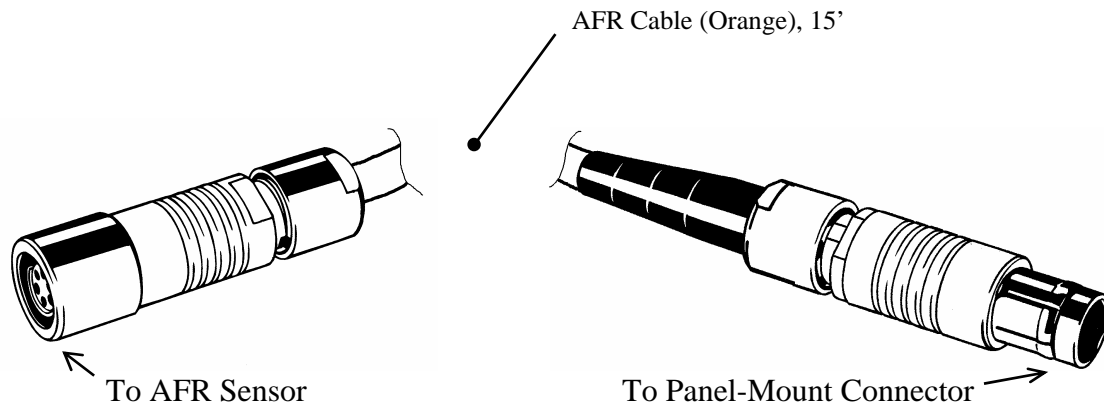

Figure 4: Severe Duty AFR Cable Extension
6. The shields of the severe duty AFR Cable Extensions (see Figure 4) that plug into the Fischer panel-mount connectors connect to the shields of the signal cable via terminal 4 (of the Fischer connector). However, the shields are not connected to terminal 4 at the AFR sensor end of the severe duty AFR cable extensions. Keep this in mind when checking for continuity on terminal 4.
10. Plug the severe duty AFR Cable Extensions (see Figure 4) into the panel-mount connectors, matching the color of the cables' strain reliefs to the color of the connectors' rings. The black strain relief and ring are for the left AFR channel. The white strain relief and ring are for the right AFR channel. The AFR sensors plug into the free end of the severe duty AFR Cable Extensions.